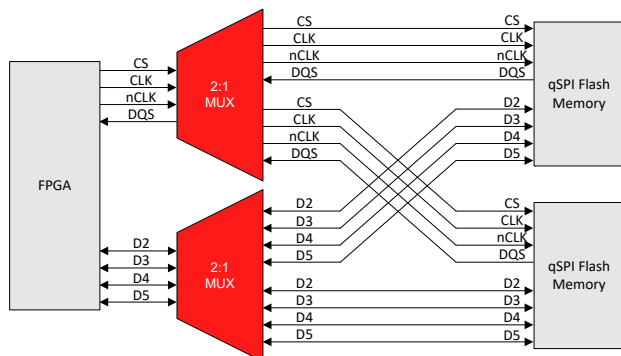

Figure 4. FPGA Access to Multiple Quad SPI Flash Memories
that implement multiple parallel data lines in the SPI interface rather than a single COPI line and single CIPO line. Quad SPI frequently uses eight total signal lines: one chip select line (CS), one data strobe line (DQS), two differential clock lines (CLK and nCLK), and four data lines (D0, D1, D2, and D3). Octal SPI includes four additional data lines (D4, D5, D6, and D7), resulting in a total of 12 signal lines. Figure 4 shows an example of access to multiple quad SPI flash memories using two 4-channel 2:1 multiplexers.